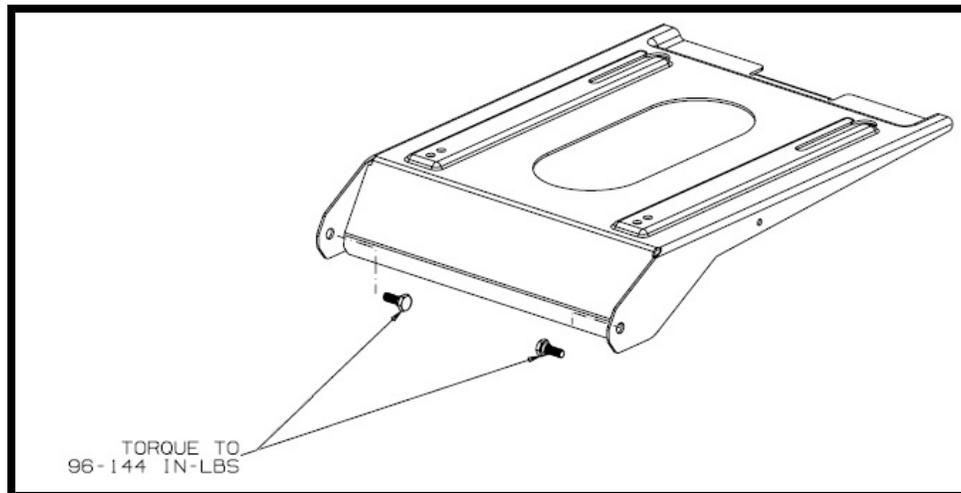

FIGURE 13
11. The rear wheels can be left on the hubs and removed along with the transmission. If not the wheel lug nut torque is shown in Figure 13.